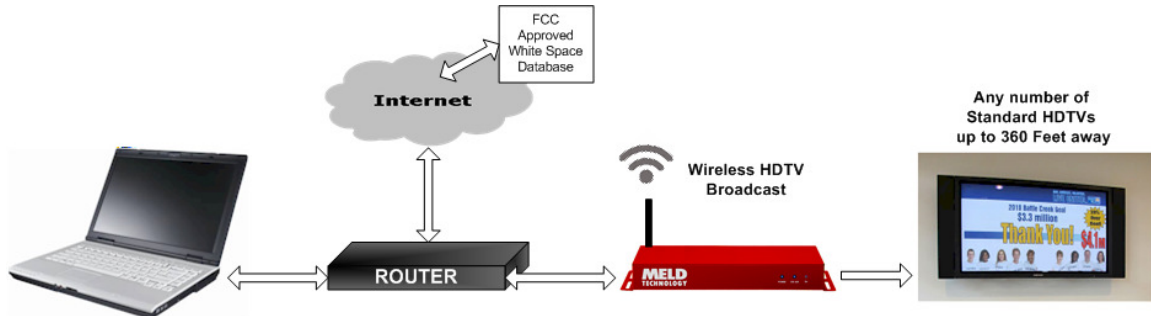

Figure 1 - Typical Setup for Device configuration and TVWS access
Use of the setup in figure 1 and configuring the router LAN IP address set to 192.168.1.254 will allow access to the White Space database for registration. Set the computers network setting in figure 1 to DHCP to acquire an address from the router.
setup in figure 1 or use the alternative setup below in figure 2 to change the MT300 network configuration.
If using the typical setup in figure 1, connect a PC and the MT300 to the router and set the computers IP Address to a static IP address on the same subnet as the default settings for the MT300 (e.g., 192.168.1.100). The LAN side of the router must be configured for addresses within the 192.168.0.0 subnet.
**Note:** Depending on the changes made to the IP address configuration, the MT300 may no longer be reachable using the figure 1 and 2 recommended IP address configurations.